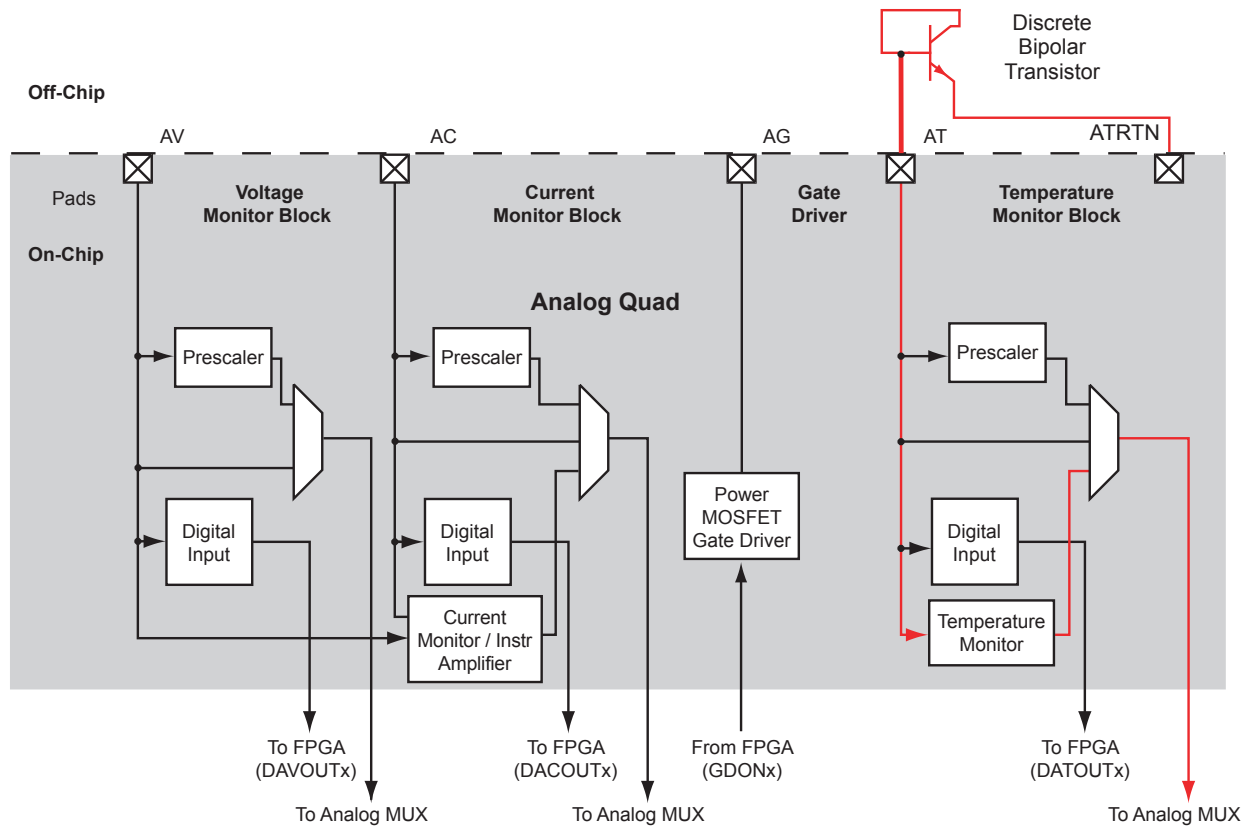

Figure 2-76 • Temperature Monitor Quad
The final pin in the Analog Quad is the Analog Temperature (AT) pin. The AT pin is used to implement an accurate temperature monitor in conjunction with an external diode-connected bipolar transistor (Figure 2-76). For improved temperature measurement accuracy, it is important to use the ATRTN pin for the return path of the current sourced by the AT pin. Each ATRTN pin is shared between two adjacent Analog Quads. Additionally, if not used for temperature monitoring, the AT pin can provide functionality similar to that of the AV pad. However, in this mode only positive voltages can be applied to the AT pin, and only two prescaler factors are available (16 V and 4 V ranges—refer to Table 2-57 on page 2-130).